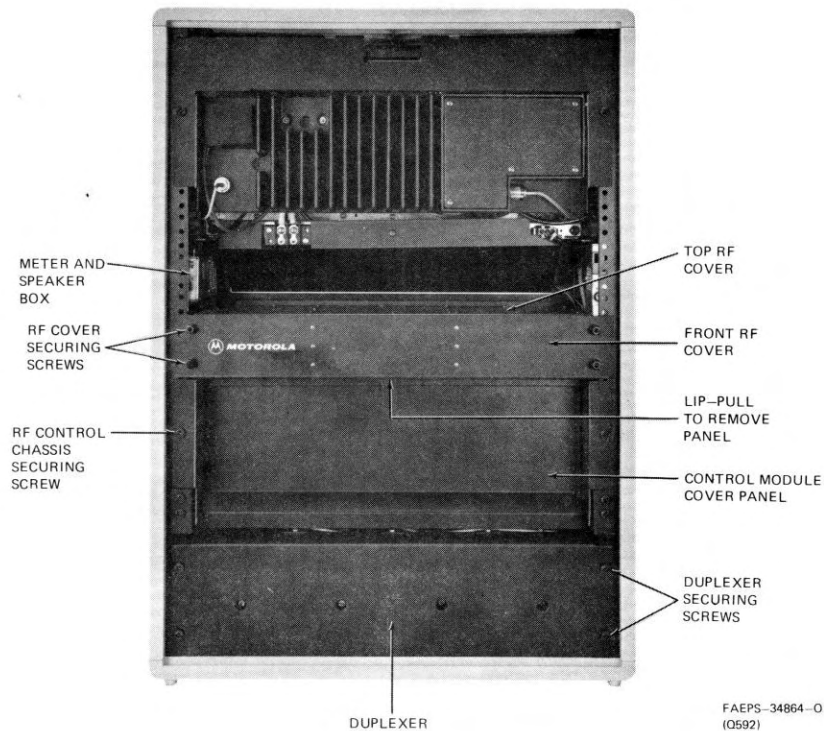

Figure 6. Fully Optionable Intermittent Duty Station Chassis Access
5.4.2.1 To remove the front rf cover, remove 4 Phillips head screws (with plastic covers) as shown in Figures 6 and 7. The exciter and receiver boards may now be removed by pulling the ejector handles and then pulling the boards out of the chassis.